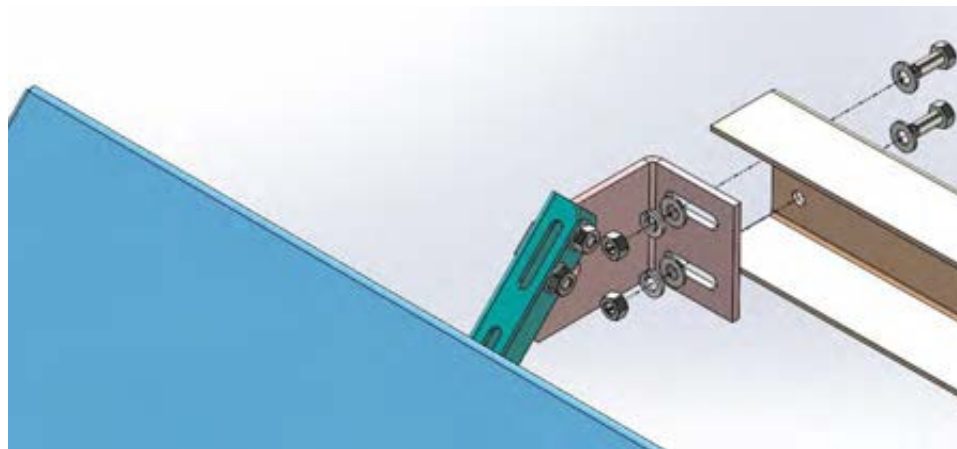

Figure 8. Exploded view of the right side clip installed to the upper bucket bracket
7. Place the solar panel assembly so the slots on the clips line up with holes inside of the bucket as shown in **Figure 8**. Bolt the clips to the bucket using 5/16 - 18 x 3/4" hex cap bolt and flat washer on one side, and a washer, lock washer and nut on the other. Tighten the bolts to **12 ft-lbs**.